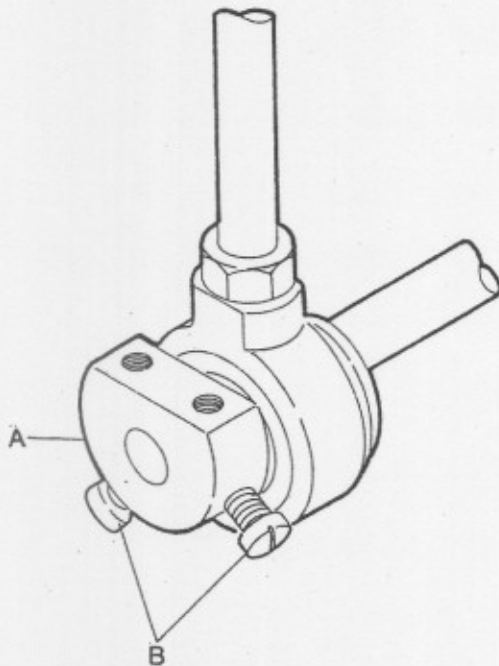

Fig 20
1. Loosen the upper shaft eccentric screw B in Fig 20. and then tighten this screw provisionally.
2. Turning the pulley, and the correct synchronizing of puller is selected, please tighten screw A in Fig 20. This time, if turning the upper shaft eccentric to the front, the synchronizing becomes faster, and doing oppositely, it becomes slower.